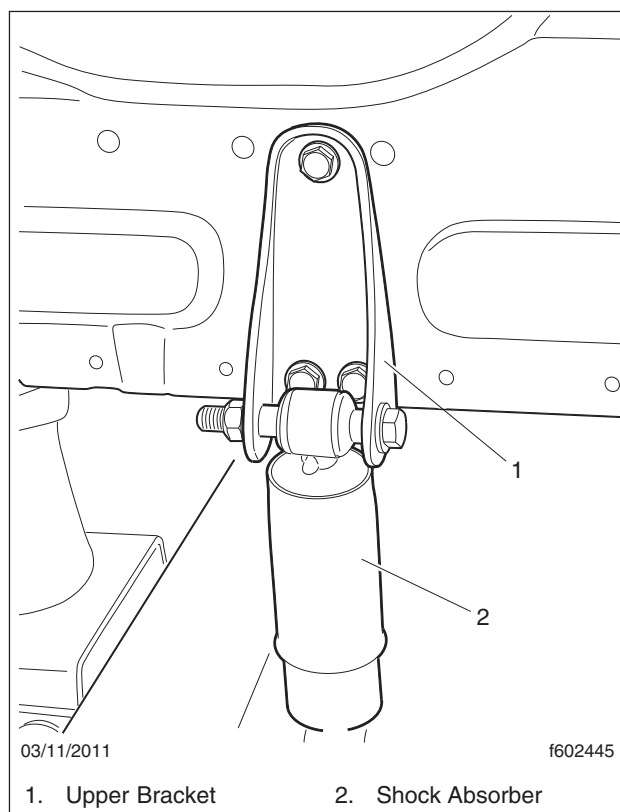

Fig. 1, Cab Shock Absorber and Upper Bracket
2. Check the torque on the upper bolt that attaches the shock absorber upper bracket to the cab. If loose, tighten the bolt 34 lbf-ft (46 N·m). See Fig. 1.